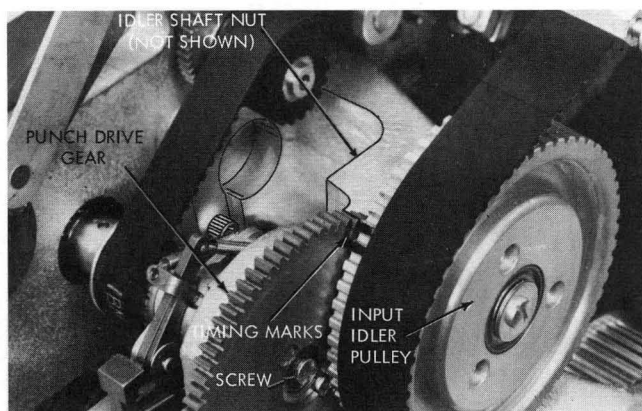

Figure 5-4. First Stepped Feed Roll Timing Belt Installation
2. After marking punch input idler pulley relationship to punch drive gear (Figure 5-4) remove hex nut that holds input idler pulley shaft onto machine casting. Remove unit.